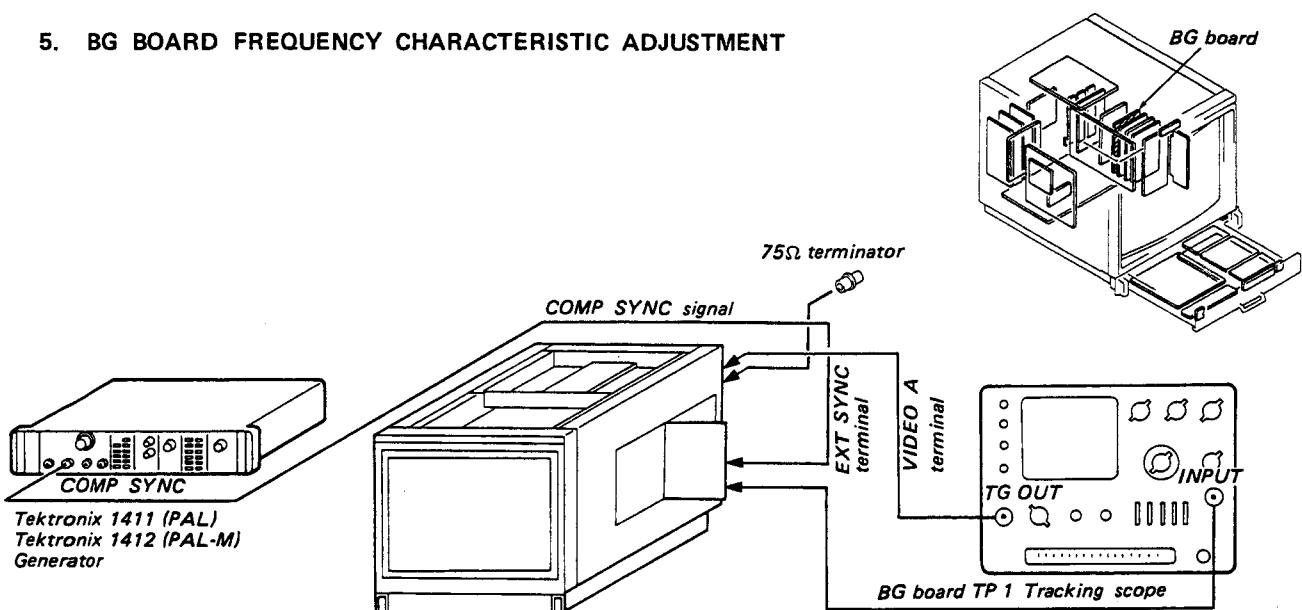

Fig. 5-1
1. Complete the connections as shown in Fig. 5-1.